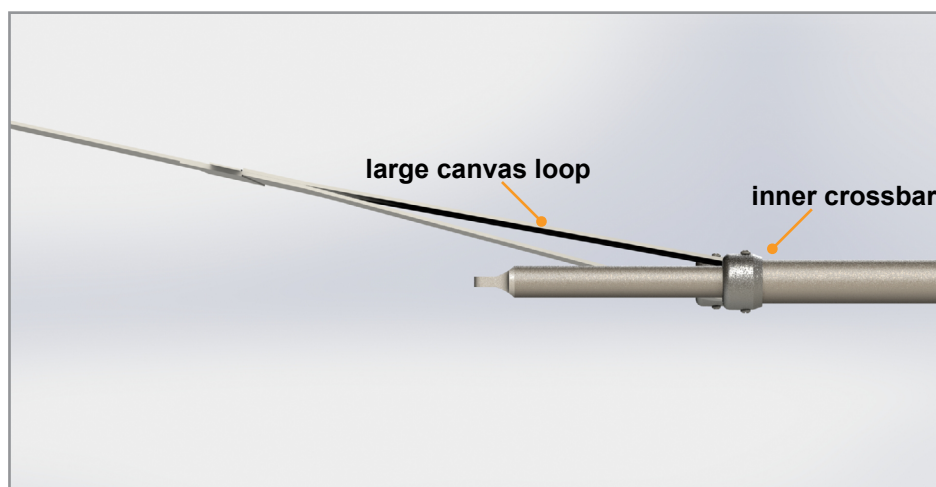

Fig.14
1. Slide the large loop in the canvas over the inner crossbar, then install the free end of the crossbar to the front end cap (**Fig.14**).